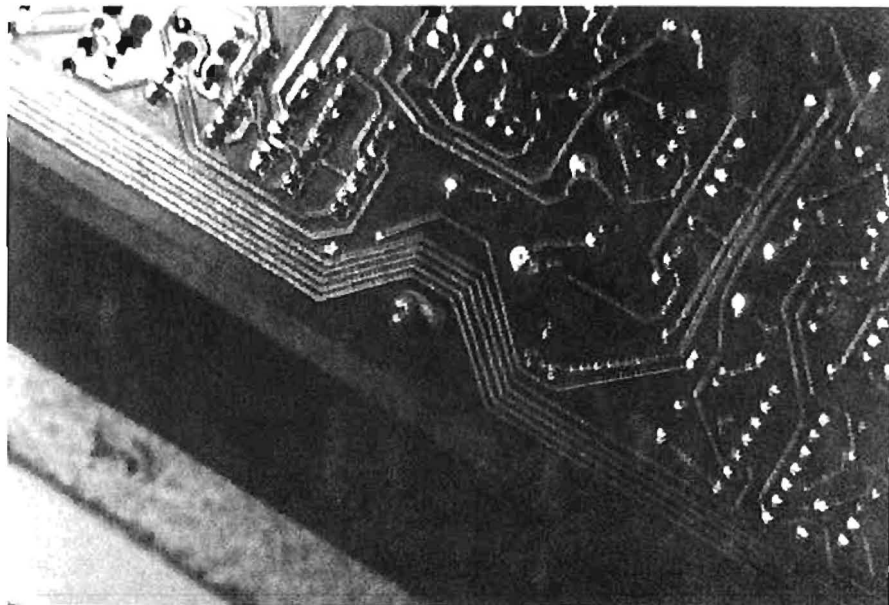

FIGURE NO. 9
- 9b) When re-assembling demodulator, care should be taken to avoid pinching any wires. Note that one of the screws has a cut washer such that it will not touch an adjacent printed circuit run. (Refer to Figure No. 9)